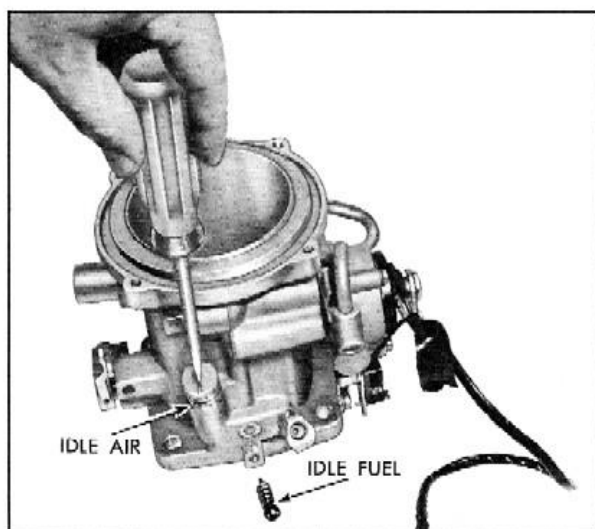

Fig. 13 Removing Idle Fuel and Idle Air Adjusting Screws
1. Remove the idle air and idle fuel adjusting screws and springs, Fig. 13.